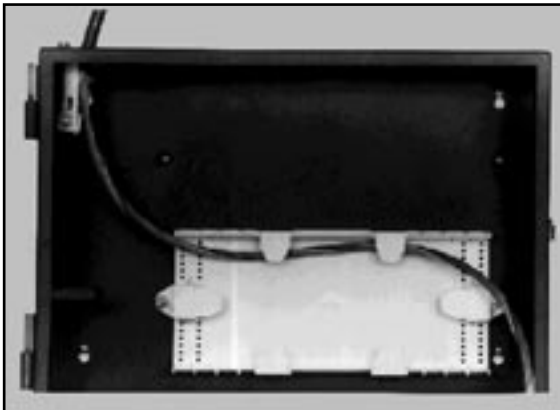

FIGURE 3 - ROUTING OF BUFFER TUBES OR UNITUBE INTO TRANSITION ASSEMBLY
4.07 Route the buffer tubes or unitube into the upper left corner of the Transition Assembly. (Figure 3)